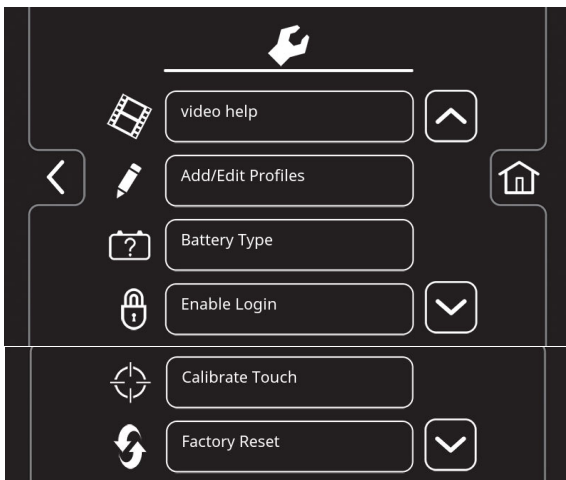

FIG. 167
- The machine's setting screen provides access to the following menu (Figure 167).